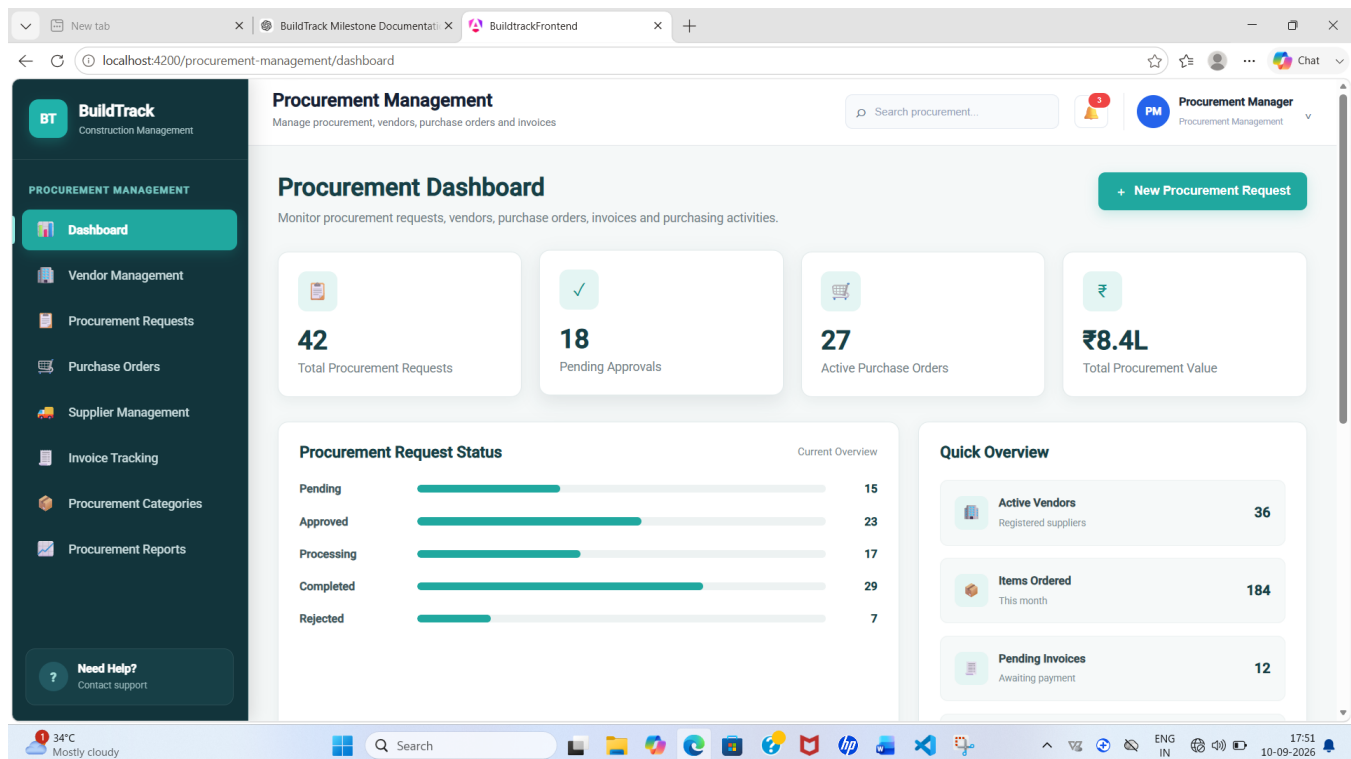

Figure 10: BuildTrack – Procurement Dashboard
- Figure 10 – Procurement Dashboard